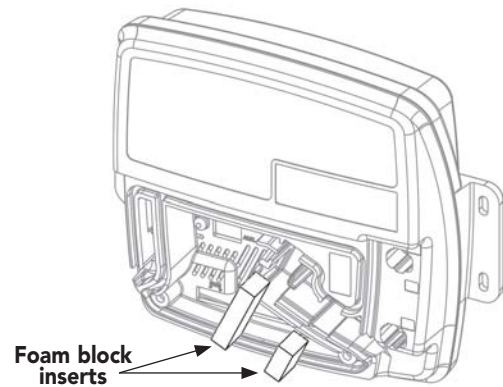

Figure 8
3. Remove the two foam block inserts from the inner wiring channels and set aside (Figure 8).